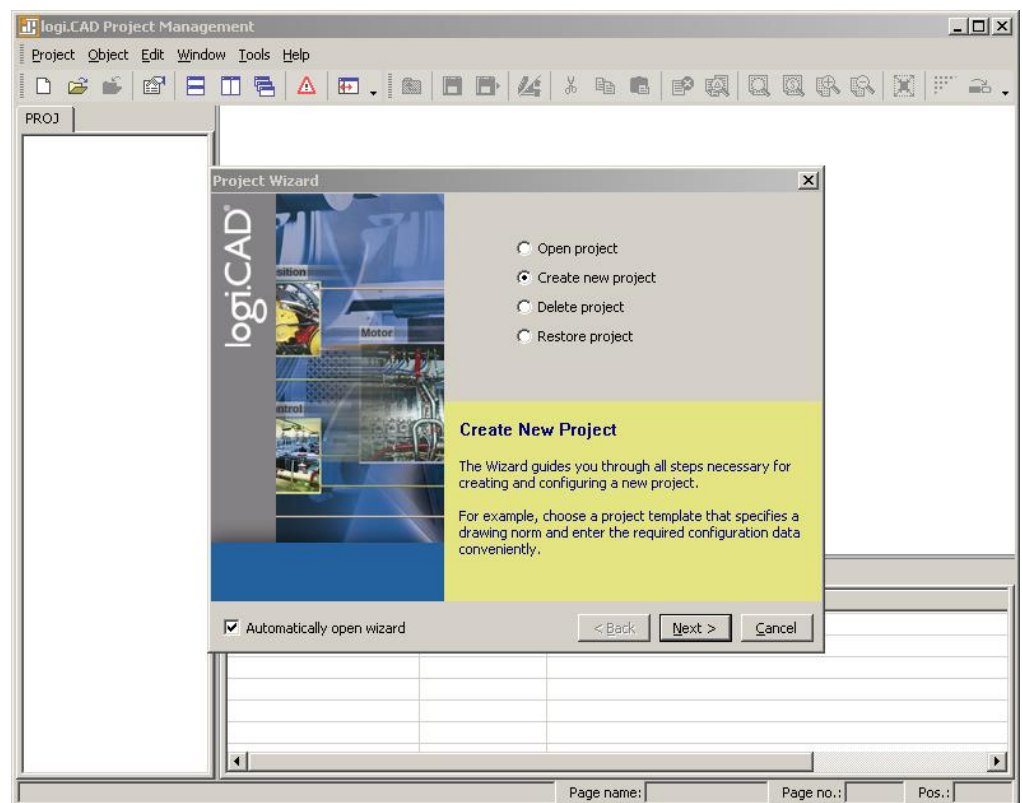

Figure 20: logiCAD project wizard
2. The project wizard starts automatically as shown in Figure 20.